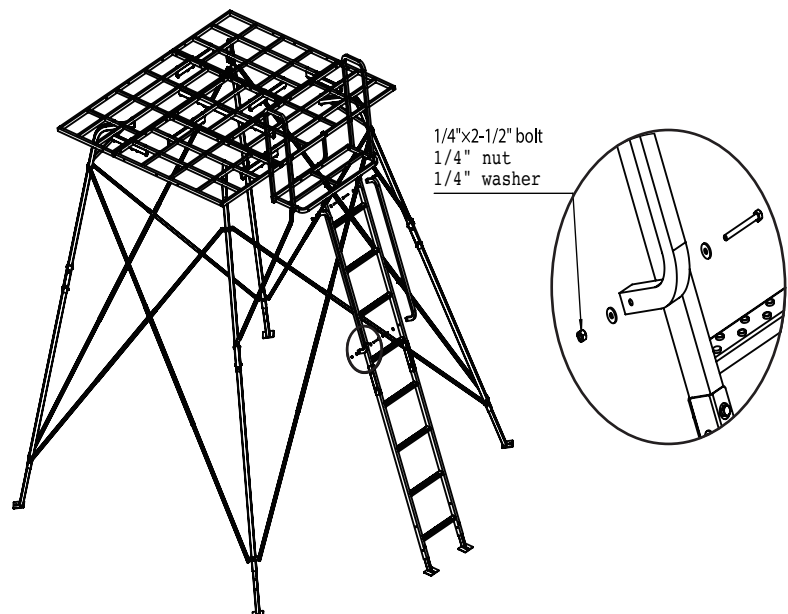

FIGURE 15
Attach the two **LADDER HANDRAILS (#20)** by using (4) 1/4"-20x2-1/2" bolts, (4) 1/4" lock nuts and (8) 1/4" flat washers. (Figure 15). **Be sure to not over tighten.**